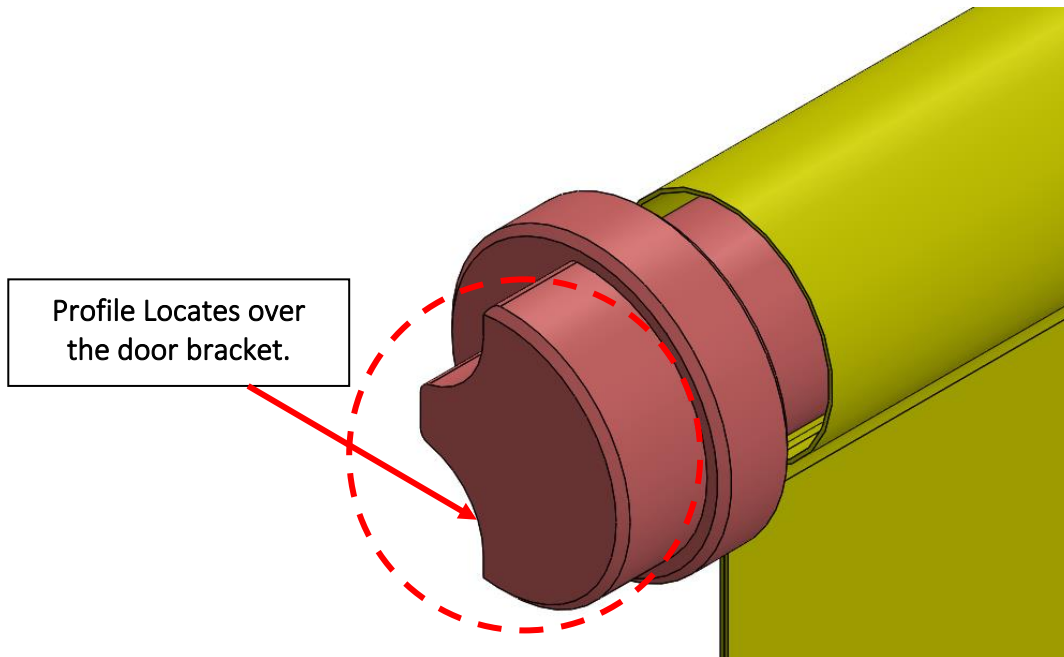

Figure 6 Top Fixed Locator.
- 4.1.4 Firstly, locate the top fixed locator into the top door bracket, shown in figure 6.
- 4.1.6 The profile on the top fixed locator locates in the orientation as shown in figure 6 & 7.